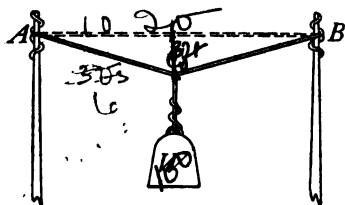

FIG. 69.—Forces acting upon a
4. A weight of 100 lbs. is suspended at the middle of a rope ACB 20 ft. long. (See Fig. 69.) The ends of the rope are fastened at points A and B at the same height. Consider D as the center of the line AB . What is the tension of the rope when CD is 3 ft.? When CD is 1 ft.? When CD is 1 in.?